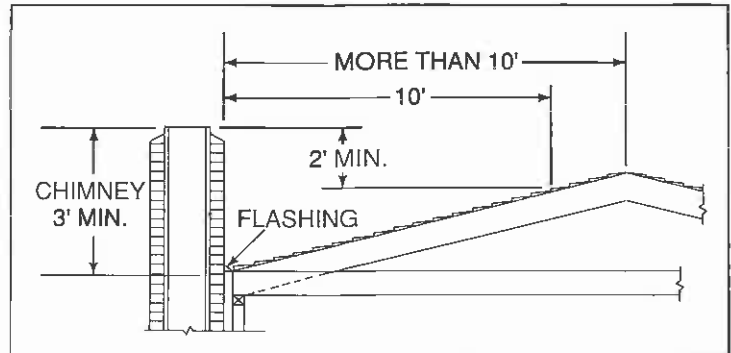

Figure 13
- If the horizontal distance from the side of the chimney to the peak of the roof is more than 10 feet, a chimney height reference point is established on the surface of the roof a distance of 10 feet from the side of the chimney in a horizontal plane. The top of the chimney must be at least 2 feet above this reference point, but never less than 3 feet in height above the highest point where it passes through the roof. See Figure 13.